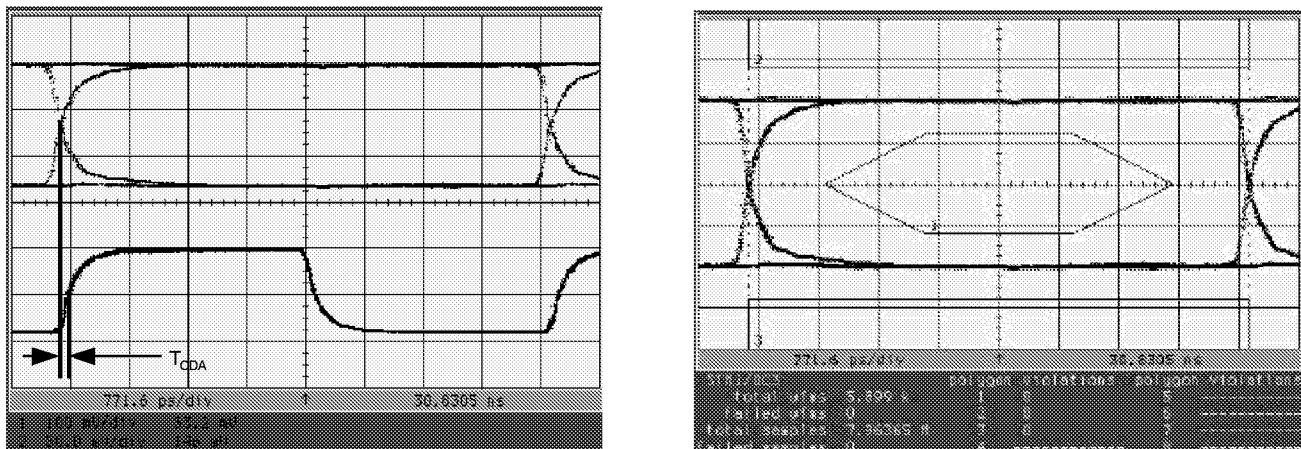

Figure 5. Typical Performance
3. Alignment of clock and data outputs (see Figure 5).